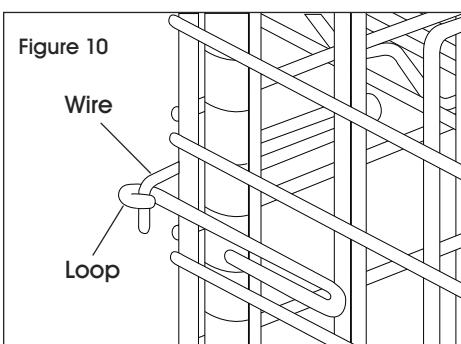

Figure 10
1. Assemble back left panel first. Place wires facing downward into loops on side panel. (See Figure 10)